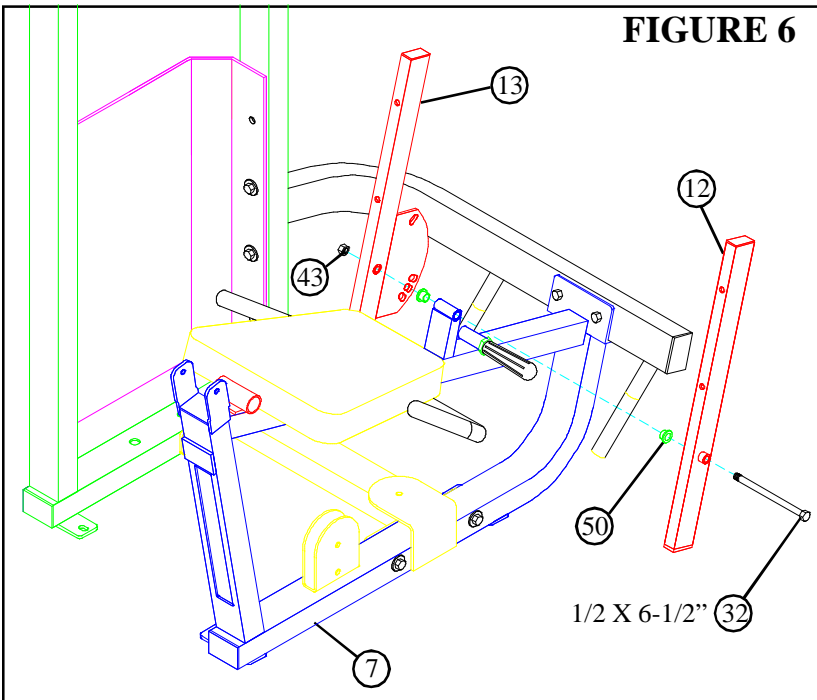

FIGURE 6
- Assemble RIGHT (12) & LEFT (13) PAD SUPPORTS to the BENCH FRAME (7) using one 1/2 X 6-1/2" BOLT (32), two 1/2" FLANGE BEARINGS (50), and one 1/2" LOCK NUT (43) as shown in FIGURE 6. (**NOTE: Securely tighten, then back nut off 1/4 turn to allow the two parts to rotate freely.**)